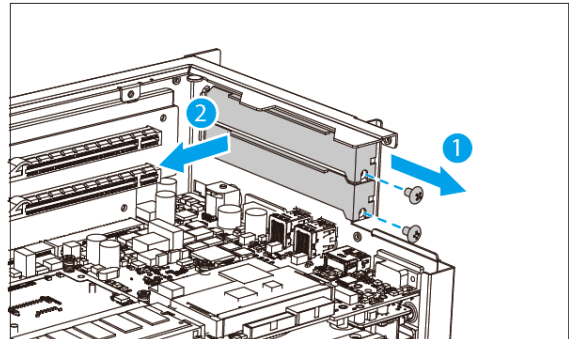

Figure 3-1: Remove Two Blank Brackets
Step 3: Locate available PCIe slots and remove the blank brackets. The Mustang-F100-A10 is compatible with PCIe x8 and x16 slots, and needs two side-by-side PCIe slots for installation. Remove two blank bracket panels on the back of the computer that align with the PCIe slot (right side in **Figure 3-1**) for installing the Mustang-F100-A10. Save the bracket screws.